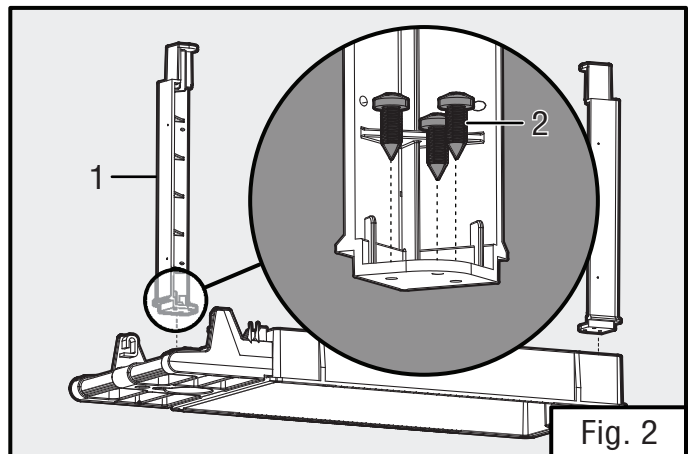

Fig. 2
3. Locate two of the legs (Fig. 2 - 1), taking note of the positions of the bottom flanges. Place one nearest the handle and the other diagonally across the shelf tray corner. Using a rubber mallet, tap the legs onto the upper tray until the tab with the three screw holes is in contact with the shelf tray. Repeat this process with the other two legs so all four legs are in solid contact with the shelf tray.
4. Insert and tighten three screws (Fig. 2 - 2) per leg so that the legs are secured in the shelf tray.